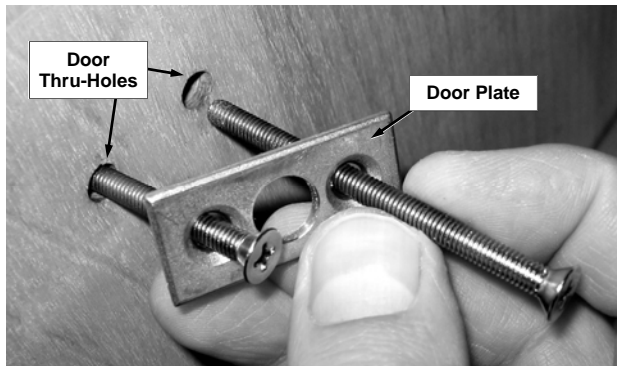

Fig. 6e: Insert mounting screws into Door Plate holes, then into the inside door thru-holes.
- 6e. **Secure the DL lock to the door** with four (4) through-door mounting screws and two Door Plates as follows: Insert a mounting screw into one of the two Door Plate holes. Inside the door, insert the mounting screw into the door thru-holes, carefully threading the mounting screw into the DL lock housing by hand (see Fig. 6e). Repeat for three remaining mounting screws. Snug all four mounting screws before final tightening--do not over-tighten.